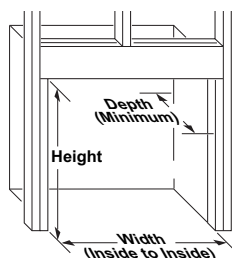
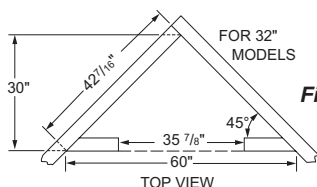

Figure 7a
Figure 7b
1. Frame in rough opening. Firebox framing should be constructed of 2 x 4 lumber or heavier. Use dimensions in table and rough opening layout in Figure 7a. Adjust framing so that firebox is flush with finished wall surface. If installing in a corner, use dimensions in Figures 7b, 7c and 7d for rough opening.